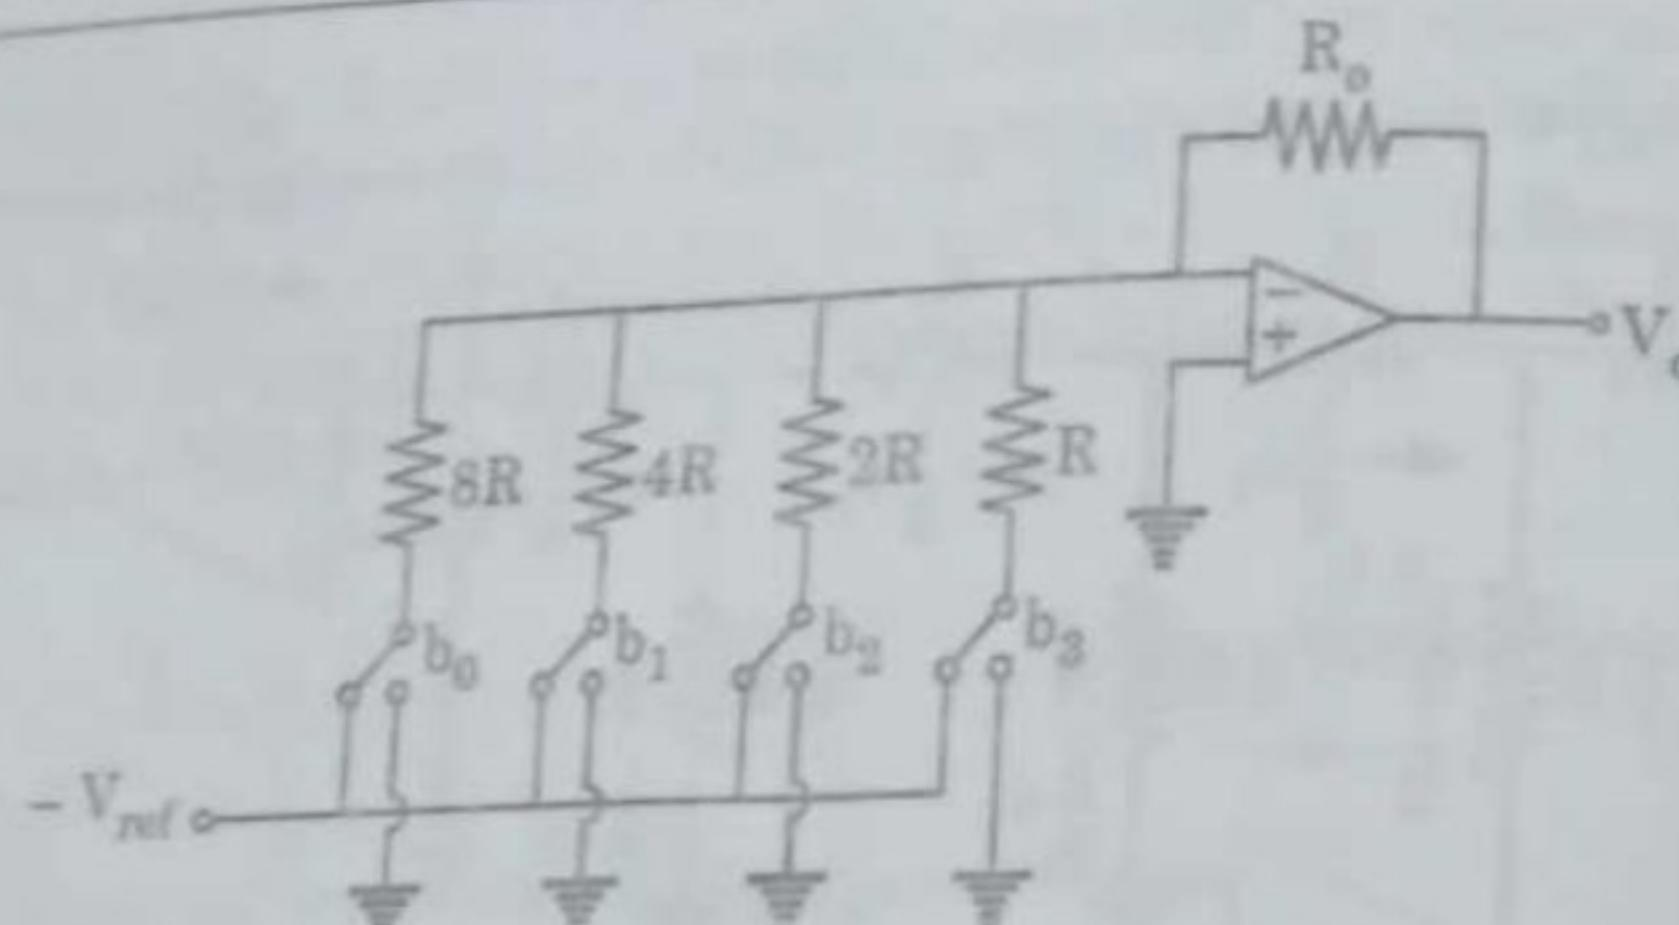

Fig. 4.15.6. Binary weighted resistors DAC.
- In the voltage domain, that is if the input signals are voltages, the addition of the binary bits can be achieved using the inverting summing amplifier as shown in Fig. 4.15.6.